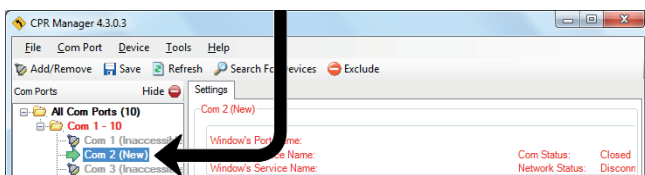

Fig. 85
7. Newly usable COM ports are specially highlighted in the list of detected COM ports in the "CPR Manager" program. By clicking on the appropriate COM port, the settings of the given virtual COM port are displayed. See Fig. 85.